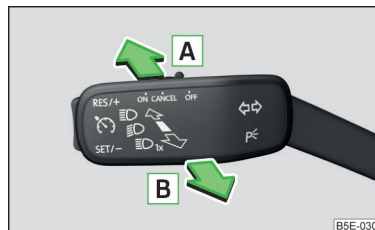

Fig. 51
- Place the lever in position **A** (spring-tensioned position) » Fig. 51.
- If the headlight is currently switched on automatically, move the lever into position **B** (spring-tensioned position) » Fig. 51.